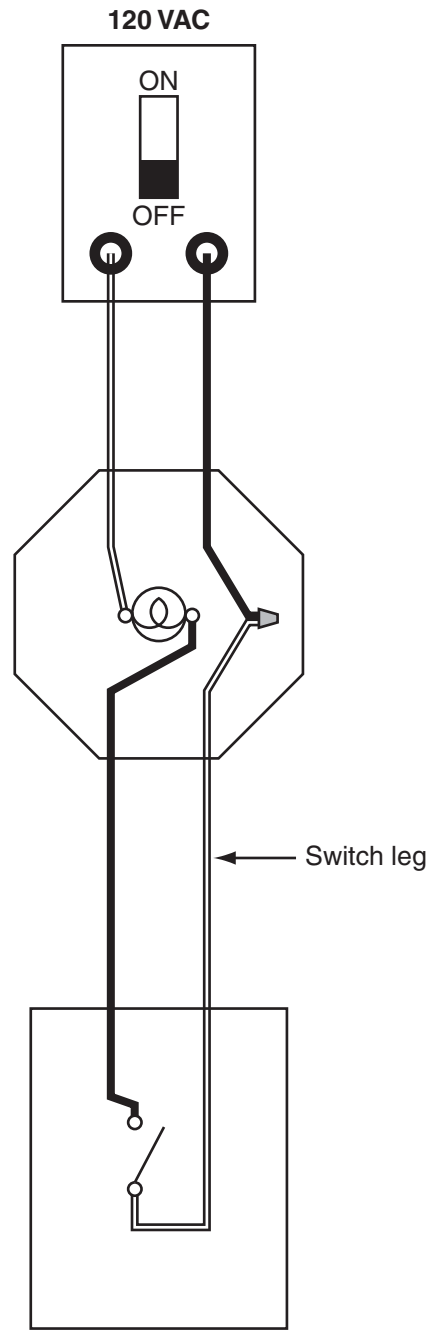

Figure 7-17 Laboratory circuit 2.
9. Connect the circuit illustrated in Figure 7-17.